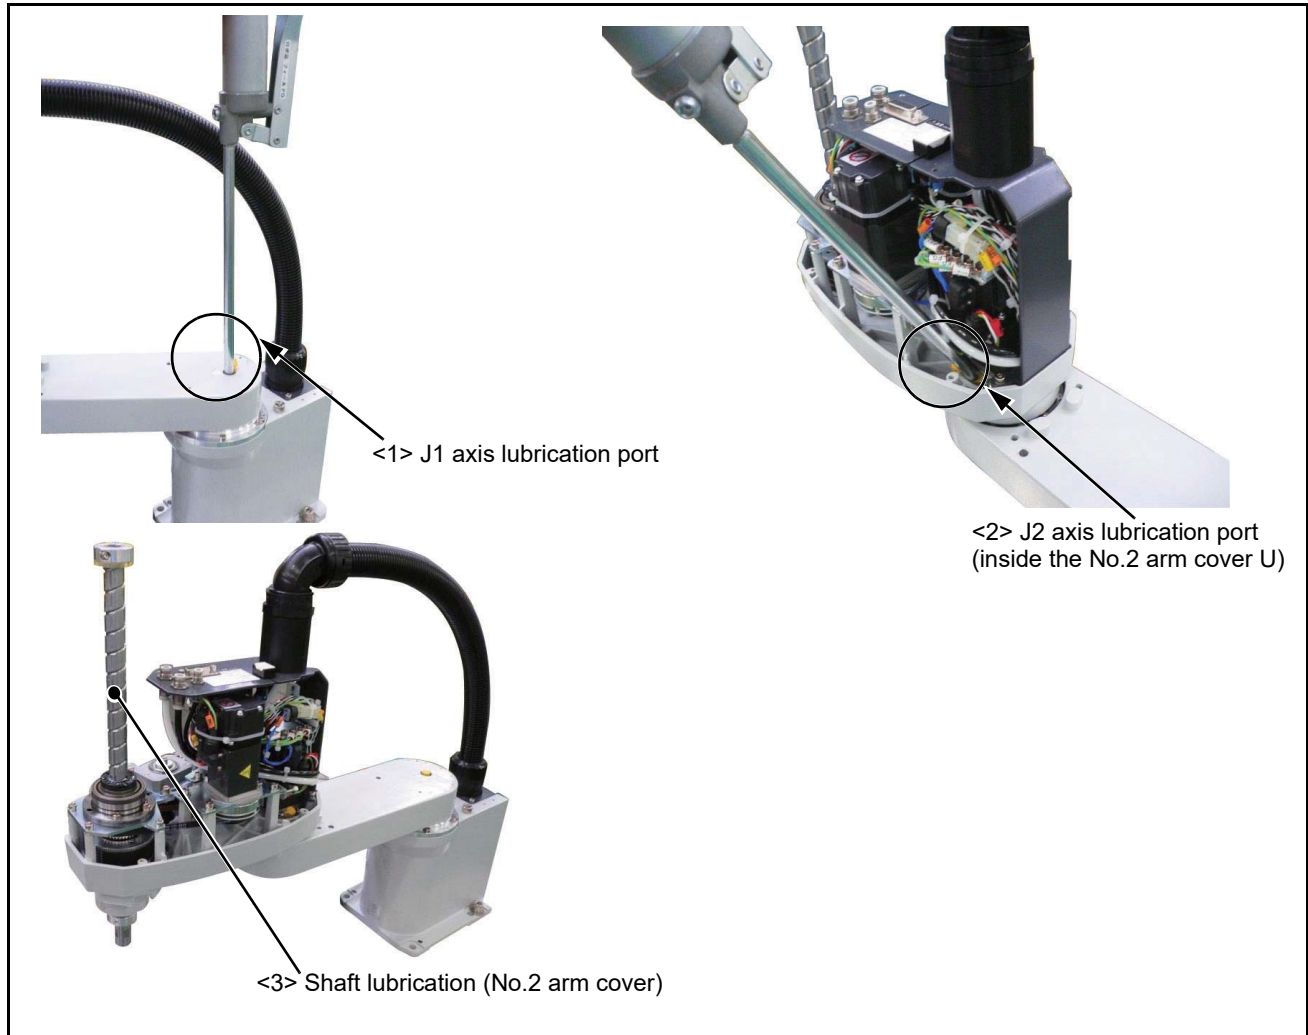

Fig.5-6:Lubrication positions
The grease nipple position is shown in Fig. 5-6. The lubrication specifications for each place are shown in Table 5-8. Refer to the Page 52, "5.3.2 Installing/removing the cover" for the method of removing and installing the cover.
- The numbers in the Table 5-8 correspond to the supply positions in Fig. 5-6.
(2) Lubrication method to the J1, J2 axis